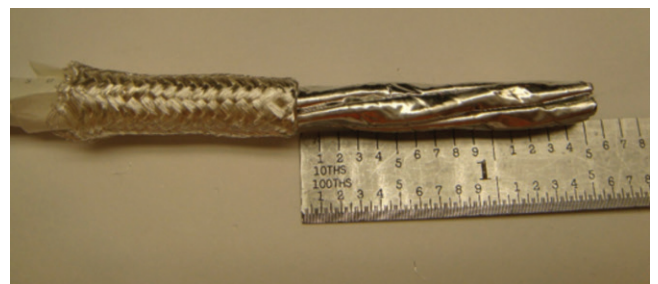

Figure 31: Exposing the foil
6. With your fingers, push the braid back over the cable to expose approximately 1.5 inches of the foil (Figure 31).